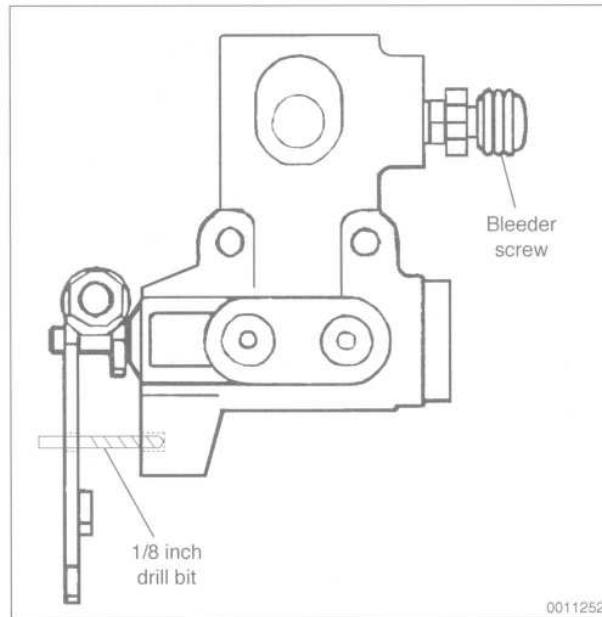

Fig. 18. LAD regulator valve. Lock the lever in position by inserting a $\frac{1}{8}$ in. drill bit through hole in lever.
- Using the ride height specifications given earlier under **Ride Height**, move the LAD regulator valve lever forward or rearward until the height is correct. Then lock the lever in the center position by inserting a small ($\frac{1}{8}$ in.) drill bit through the lever and into the valve body. See Fig. 18.
2. Place a drain pan beneath the LAD regulator valve and loosen the bleeder screw to relieve the system pressure. See Fig. 18 given earlier.